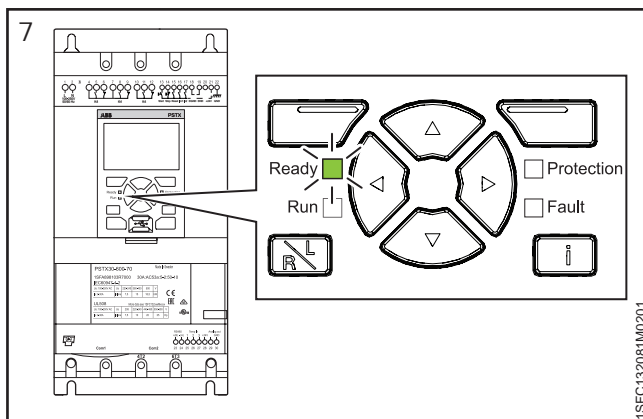

Figure 7: Flashing "Ready" LED
10. The green "Ready" LED will flash on the HMI, as in **Figure 7.**